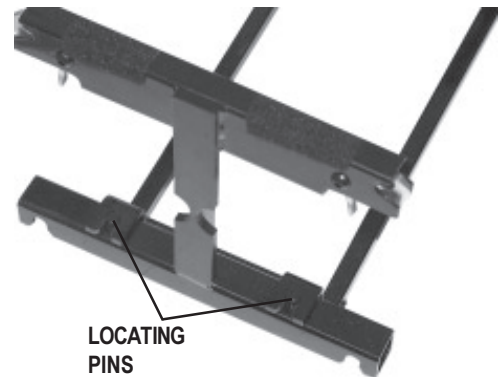

Figure 21. The Locating Pins
2. Position the notches on the front of the battery well frame onto the locating pins on the bottom bar of the front frame. See figure 21.